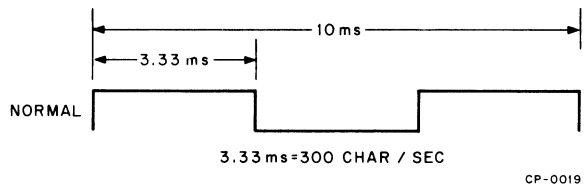

Figure 5-6 Running Rate
- a. To measure the time between transitions of the A (0) flip-flop, connect an oscilloscope probe on pin A9D2. Check that the time is 3.33 ms (300 characters per second) as shown in Figure 5-6.